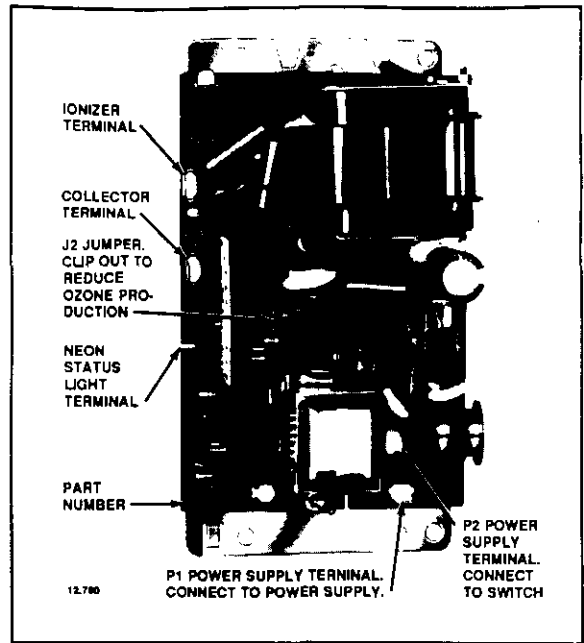

FIG. 33—CLIP OUT THE J2 JUMPER TO REDUCE OZONE PRODUCTION ABOUT 20-25 PERCENT.
- d. Find the J2 jumper and clip it out. See Fig. 33.